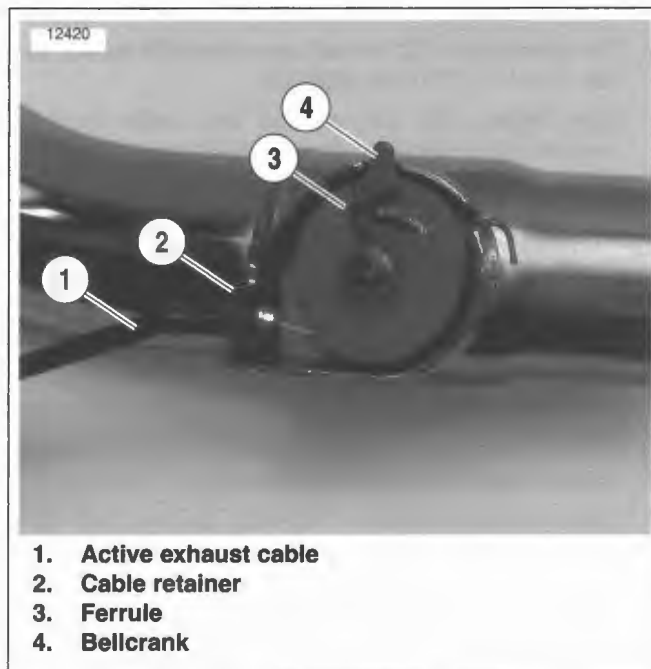

Figure 4-58. Bellcrank
2. See Figure 4-58. On vehicles with active exhaust, remove active exhaust cable from bellcrank.
- a. Remove cable retainer (2) from rear exhaust pipe.
- b. Disconnect ferrule (3) from bellcrank (4).
5. Loosely attach exhaust pipe clamp (14) to exhaust bracket (11) using flange locknut (12) and carriage bolt (15).
7. Tighten flange locknut (16) on carriage bolt (18) to 20-25 ft-lbs (27.1-33.9 Nm).
8. Tighten muffler support fasteners (27) to 96-120 in-lbs (10.8-13.6 Nm).
9. Open clamps (9) and install heat shields (1, 10, 13).
11. See Figure 4-58. On vehicles with active exhaust, install active exhaust cable to bellcrank.
- a. Install ferrule (3) into slot as shown. Wrap cable around bellcrank (4).
- b. Clip cable retainer (2) on to rear exhaust pipe.